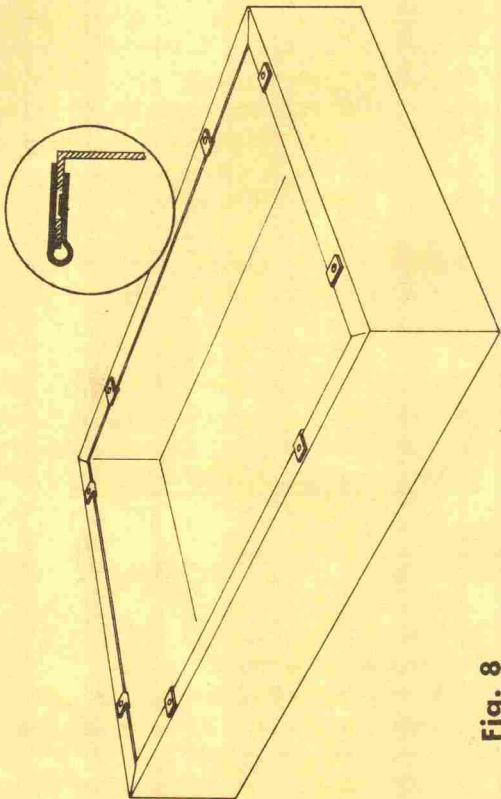

Fig. 8
- 8) Press a speed nut in place over each hole on the bottom flange of the chassis (see Fig. 8).